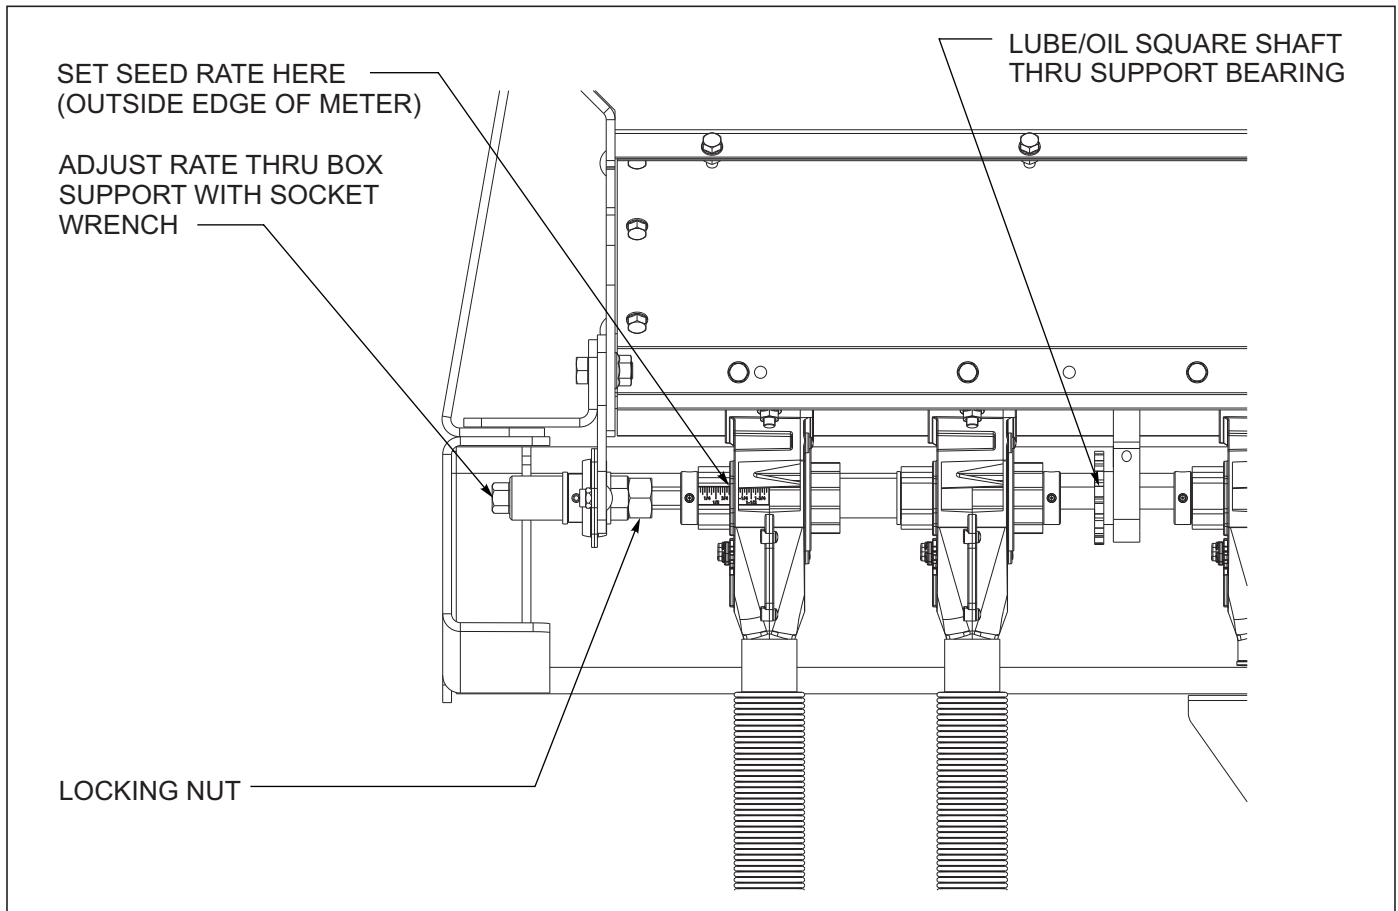

Figure 4-13: Seed Rate Adjustment
1. The seeding rate is adjusted for each section with the threaded seed rate adjustment at one end of each drill section. The end seed meter next to the adjustment has an indicating scale for reference. Read the scale along the outside edge of the seed meter to determine the setting. The seeding rate should be set the same for all sections (*See Figure 4-13.*)
5. Start with the end meter(s) next to the threaded adjustment (**See Figure 4-13.**) Slide the feed roll and cut-off to the right until the indicator reads zero on the end meter. Remove any remaining slack between the spacers, washers, feed rolls etc. and secure the lock collars on each end of that group of meters. Continue to work across the drill section sliding the meter feed rolls to the right, removing any slack, and securing the lock collars for each group of meters.